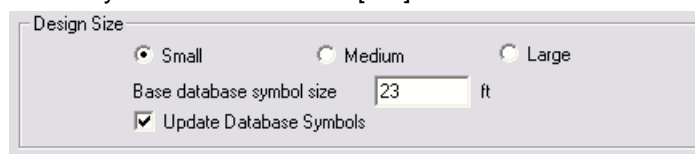

Figure 4-52
3. Go to the Misc. tab and select the Medium design size as in Figure 4-52. Change the "Base Database Symbol Size" to **23 (7)**. This determines the size of the symbols according to the size of the design. Enter your name in the "Designer" field. When you are finished click [OK].